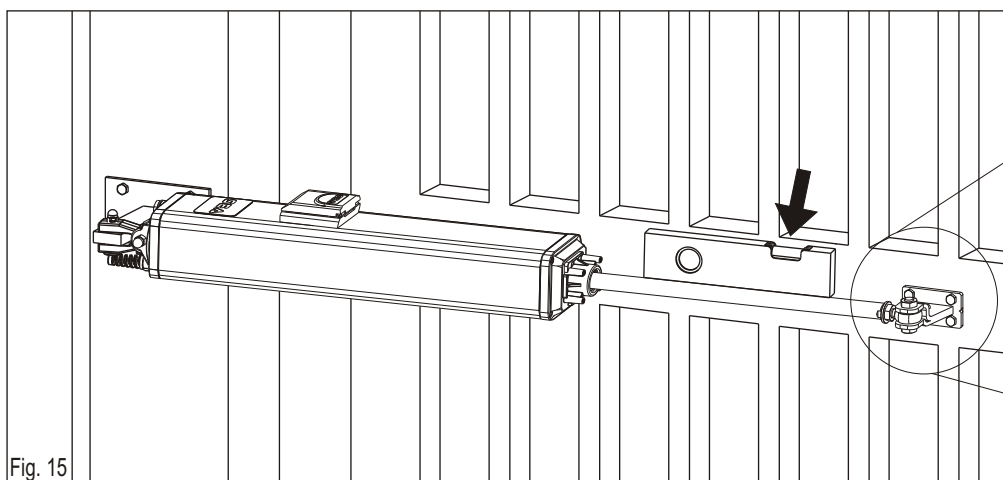

Fig. 15
The support must be positioned so that the operator is perfectly levelled (Fig. 13, Fig. 15)
4. Set the operator perfectly levelled and mark the position of the front bracket (Fig.15)